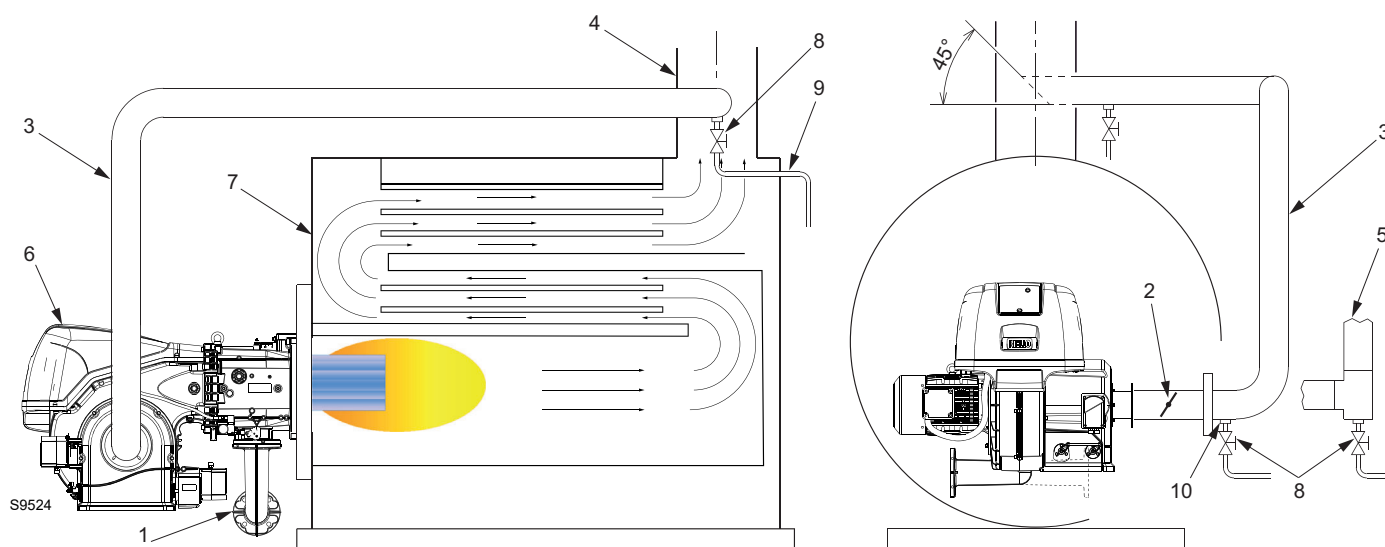

Fig. 17
- Normally the duct would connect to the stack as shown in Fig. 17, with a 45° cut facing the flue gas flow and with the centre of the cut centred in the stack.
Key (Fig. 17)